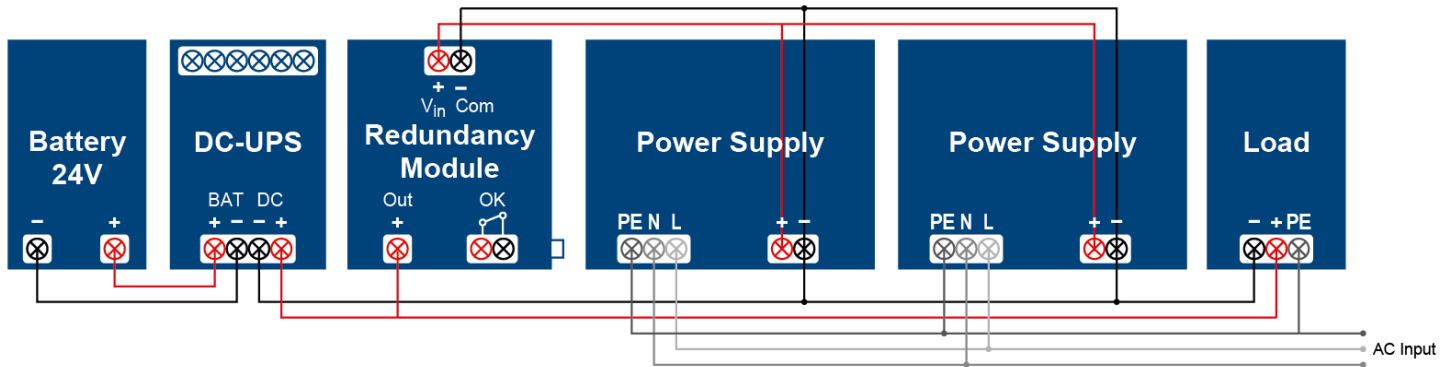

Figure 6. Redundancy PSU applications with DRU-24V40ABN
2. Further connection with redundancy PSU application, see Figure 6. below.